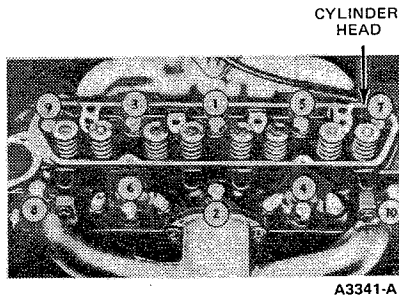

FIG. 53 Cylinder Head Bolt Tightening Sequence
33. Position the cylinder head, remove the pilot studs and install the cylinder bolts. Tighten the bolts down evenly in sequence (Figure 53) and in three steps to specification.